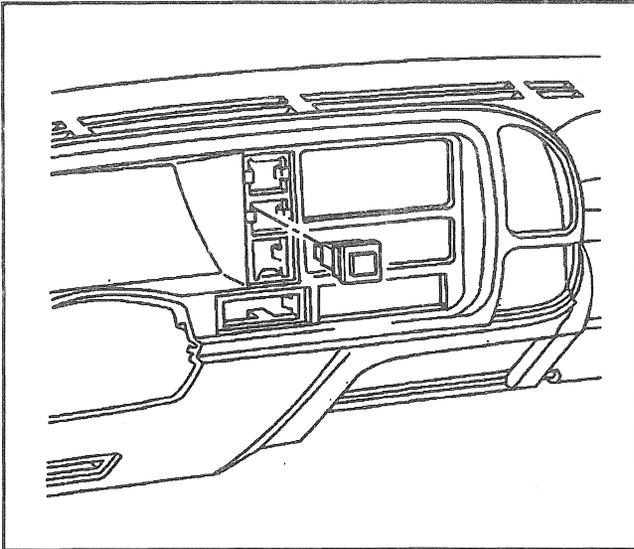

Figure 29—Cargo/Dome Lamp Switch
**↔ Remove or Disconnect (Figures 29 and 30)**
**↔ Install or Connect (Figures 29 and 30)**